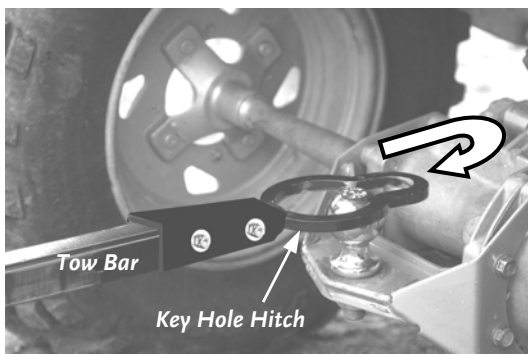

Figure 15
1. Stop the engine and put the transmission in 1st gear. Set the parking brake on your ATV (if you have one), lift the Tow Bar on the DR POWER GRADER and slip the Keyhole Hitch over the Hitch Ball on the ATV (**Figure 15**). Pull back on the Tow Bar so the slot in the Keyhole Hitch fits around the Hitch Ball Shaft.